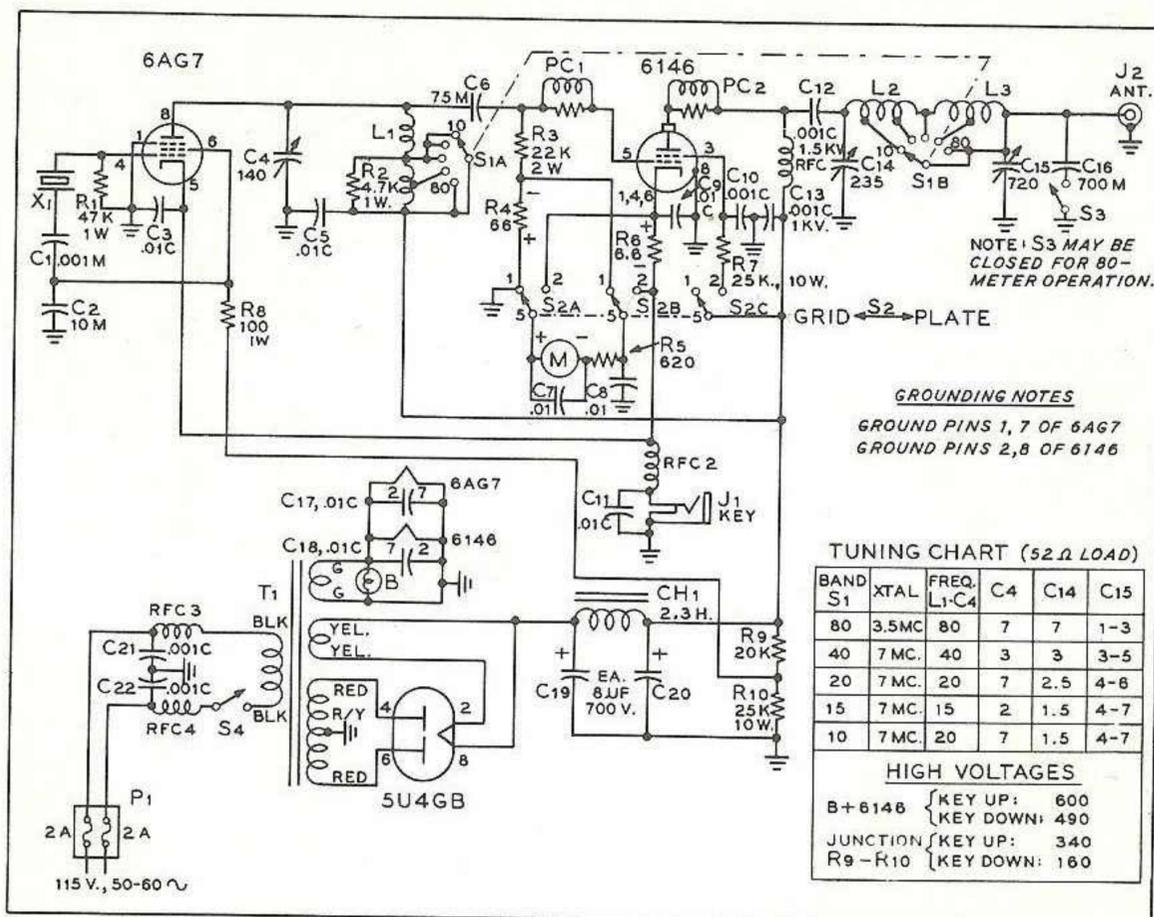

Fig. 17 Schematic diagram and tuning chart for AB-60 transmitter. Switch S3 is closed when low impedance 80 meter antennas are used with the transmitter.
The schematic of the AB-60 transmitter is shown in Figure 17. A 6AG7 pentode tube is used as a grid-screen oscillator, delivering fundamental frequency output from an 80 meter crystal, and fundamental and harmonic output from a 40 meter crystal. The plate tank circuit (L1-C4) of the oscillator employs a tapped coil, and covers the range of 3.5 mc to 21 mc. A loading resistor (R2) drops the output level of the stage on the low frequency bands to prevent over-excitation of the amplifier. The 6AG7 is capacity coupled to a 6146 amplifier stage. Suppression chokes are included in the grid and plate leads of this tube to eliminate VHF parasitics. The output circuit of the amplifier is a conventional pi-network (C14-L2-C15). Extra capacity (C16) may be shunted into the loading circuit to accommodate low impedance 80 meter antennas. The cathode circuit of both the oscillator and the amplifier are keyed for c-w operation.
- ( ) All transmitter wiring should now be checked against Figure 17, preferably by another person. (It is very easy to be blind to your own wiring errors!) All tubes should be placed in their sockets. The resistance to ground of the various tube pins should be checked against the table of Figure 22.
Tuning of the transmitter has been discussed in detail in chapter 6. As with any multi-band transmitter, it is important that the resonant circuits be tuned to the *correct* multiple of the crystal frequency for harmonic operation. In particular, the oscillator tank circuit tunes the frequency range of 12 mc to 25 mc for operation on the 20, 15, and 10 meter bands. On 20 meters, this circuit is resonated to 14 mc, and for 15 meter operation it is resonated to 21 mc. When the transmitter is used on the 10 meter band, the oscillator tank is again resonated to 14 mc. Tuning this circuit to the wrong frequency can cause the transmitter to tune erratically, and to radiate a signal on an unwanted frequency. A summary of dial settings for both the oscillator and amplifier tuned circuits is given in Figure 17. Compare your dial settings with these.